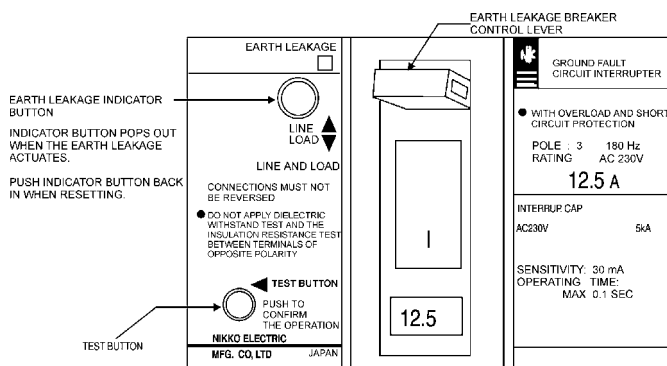

Figure 3. Earth Leakage Breaker
The earth leakage detection breaker (Figure 3) is used for 180 Hz application (3-phase vibrators). Before operating the generator test this breaker to make sure that is functioning correctly.
2. When grounding the generator (Figure 3) connect the ground cable between the lock washer and the nut on the generator and tighten the nut fully. Connect the other end of the ground cable to earth ground.